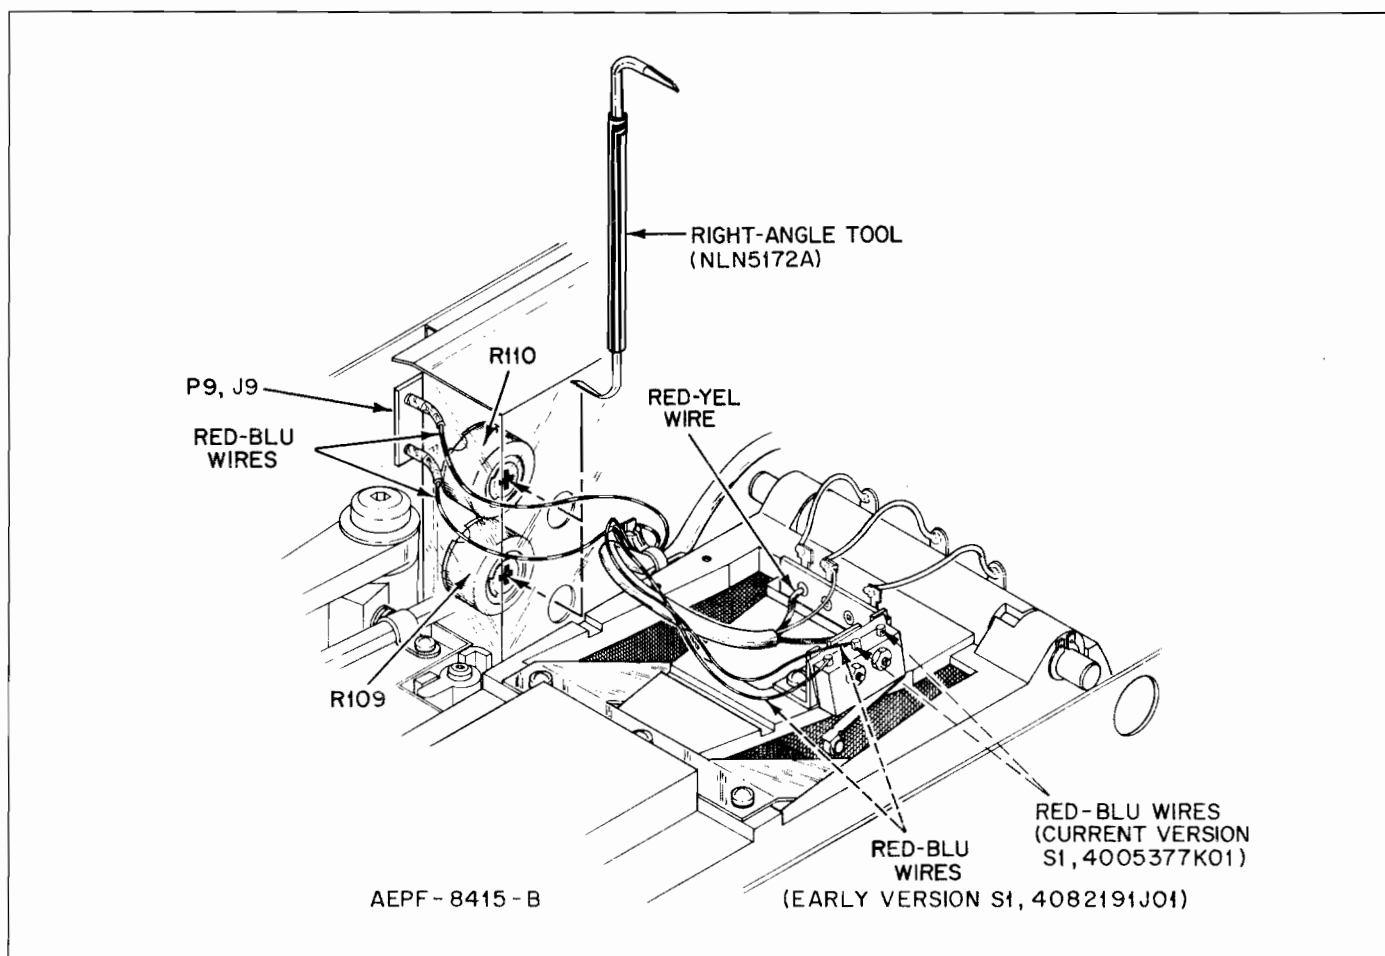

Figure 11. Charging Current Adjustment—Wire Location Detail
- (1) If an option board is used, unplug J6 and J7 from the connector board.
- (2) Slide the option board up and away from the chassis.
- (3) Reconnect J6 to P6 on the connector board.
- (4) Locate the red-yellow wire connected to the terminal strip on the console pocket (See Figure 11). Unsolder the wire from the terminal strip.
- (5) Solder the 0.1Ω resistor between the terminal strip and the red-yellow wire.
- (6) Locate the two red-blue wires (J9-1, J9-2) connected
- (7) Connect the digital voltmeter across the 0.1Ω resistor and set its range switch to 0.1V.
- (8) Insert an "omni" radio into the console pocket and turn on the radio.
- (9) Connect the power cable of the console (red wire to A+ and black wire to A-) to the power supply and adjust its output for 13.8Vdc.
- (10) Connect the ignition switch lead (orange) of the console power cable to the positive terminal of the power supply.
- (11) The digital voltmeter should indicate 0.02Vdc. If not, use a right-angle tuning tool and adjust R109 on the charger board for a reading of 0.02Vdc as indicated on the digital voltmeter (See Figure 11).
- (12) Locate the red-blue wire disconnected in step (6) and plug it back into the charger board.
- (13) Adjust R110 on the charger board for a 0.04Vdc.
- (14) Remove the portable radio from the console. Disconnect the console from the power supply, and remove the 0.1Ω resistor. Reconnect the red-yellow wire to the terminal strip, and reinstall the option board (if used).